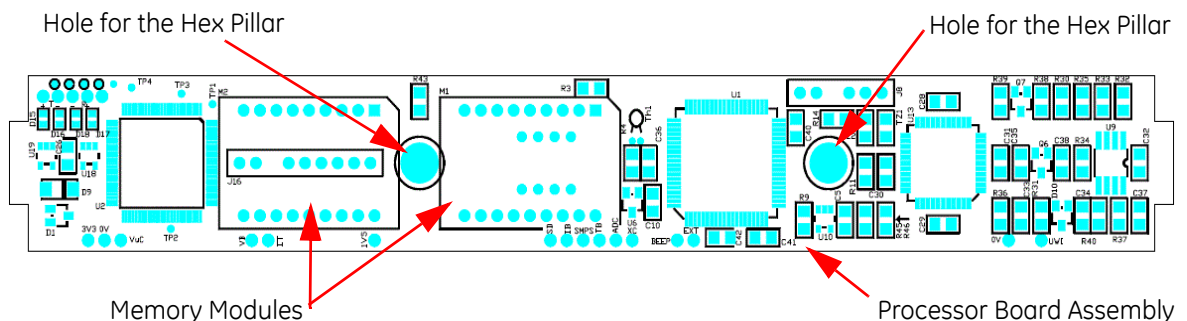

Figure 5.4 Identification of holes for the Hex Pillars
- 16 Where a new Processor Board Assembly (item 8) is to be installed, complete these steps:
- B Insert a Hex Pillar (item 14) through a Plain Washer (item 23), a Crinkle Washer (item 24) and one of the holes (FX1 to FX4) in the Processor Board Assembly. Refer to Figure 5.4 for identification of the holes for the Hex Pillars.
- C Attach a Hex Spacer (item 13) to the Hex Pillar and tighten.